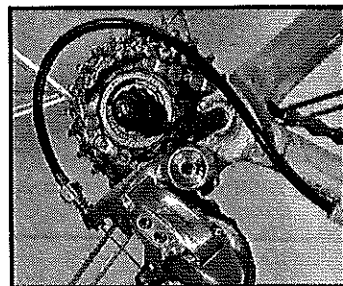

Fig. 15
3. Pull the wheel straight back (Fig. 15) until it is disengaged from the Micro Dropouts.